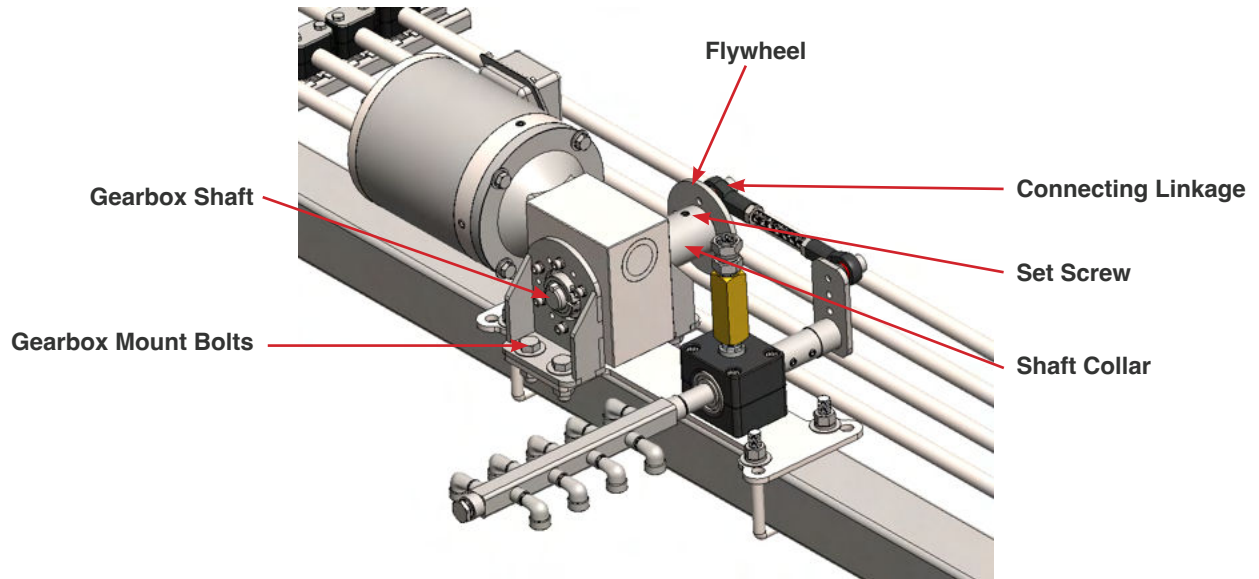

Fig. 7.1.3 - 1 - Replacing gearbox
3. Remove the connecting linkages from the flywheel (Fig. 7.1.3 - 1).